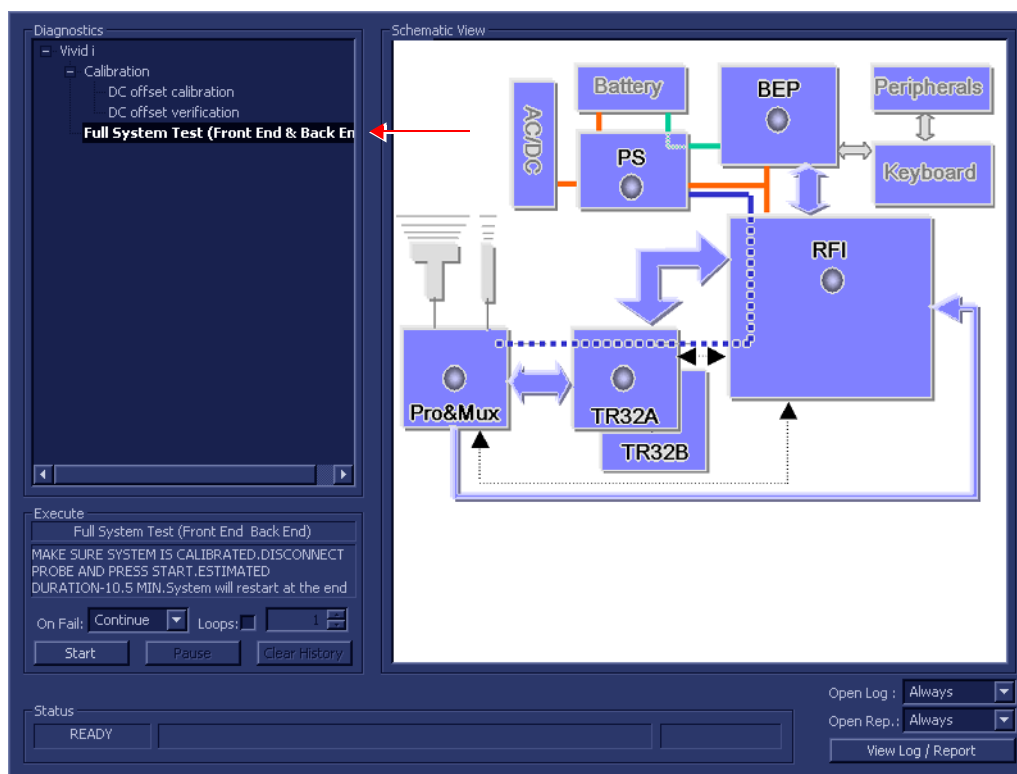

Figure 7-5 Full System (FE and BEP) Test
- In the *Diagnostic Test* window, trackball to **Full System Test (FE and BEP)** in the list of tests available for selection from the Diagnostic Test Tree (see Figure 7-5 below) and press **Set**. The Full System Test (FE and BEP) name is displayed under *Execute*, and all system components are highlighted blue in the Schematic View, as shown below: